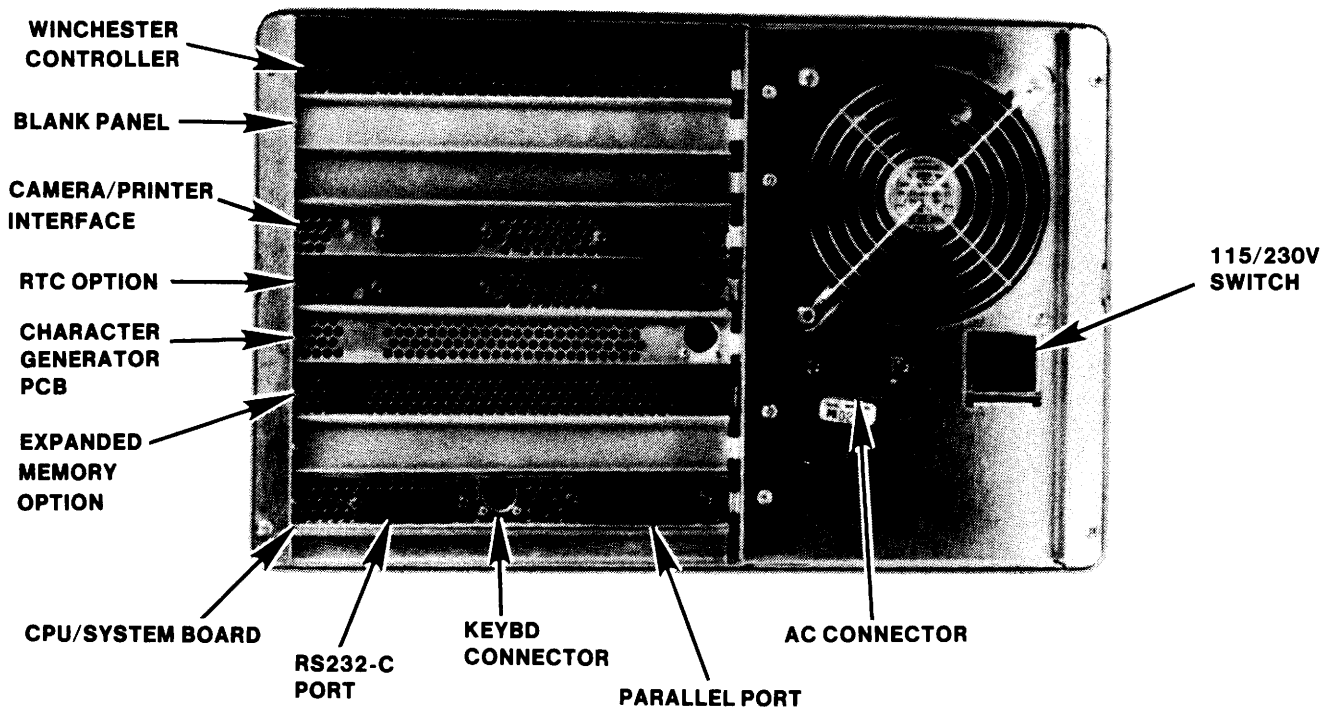

Figure 4-4. Expanded Chassis Electronics Base Unit
Figure 4-4 shows the location of all base unit connectors and indicators used to interconnect the base unit to the PC peripheral components. The illustration shown below is a representation of the Expanded Chassis PC Electronics Unit. The location of the option boards and the option boards installed may vary between units.
Locate the keyboard connector on the back panel of the Electronics Unit labeled J3. See Figure 4-4. Connect the plug on the end of the keyboard cable to the keyboard connector located on the back panel. The Keyboard connector and the Keyboard cable plug are DIN connectors allowing the plug to be installed in only one way. Be sure to align the pins in the plug to the connector to prevent damaging either of the two.
The Character Resolution board 210-8243/8343 has two connectors on it as shown in Figure 4-4. This card can be installed in any one of the eight slots within the electronics unit and not necessarily where shown.
Connect the 12 foot ac power cable to the three prong ac power connector located on the rear of the Electronics Unit. See Figure 4-4. Secure the power cord to the back panel by screwing the two flathead screws to the posts on each side of the power cord connector. BE SURE THAT THE ON/OFF SWITCH LOCATED ON THE FRONT OF THE ELECTRONICS ENCLOSURE IS OFF (O) POSITION. Connect the three prong ac plug into an ac wall receptacle to complete the installation.